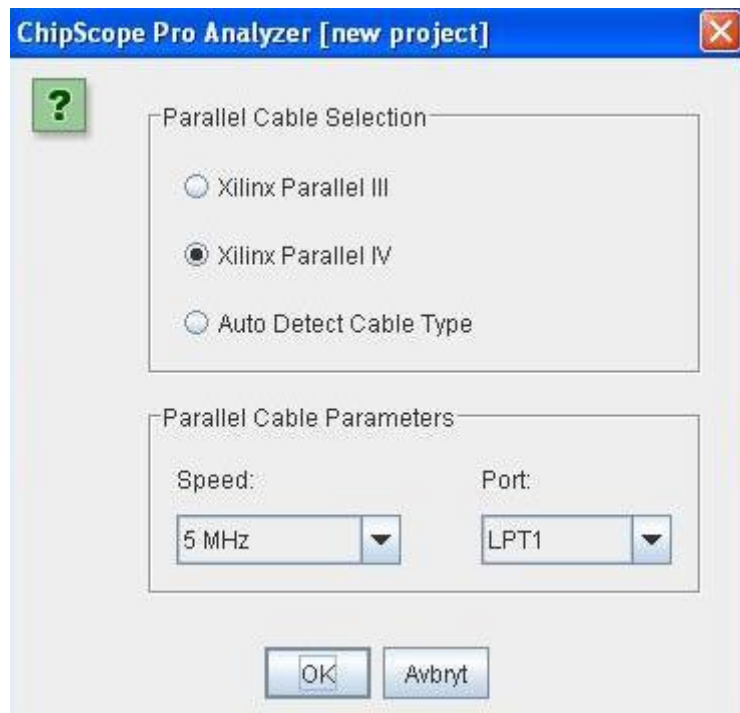

Fig 4.4: Parallel Cable Parameters
3. If the cable used is Parallel Cable IV, then we have a chance of selecting the speed of the cable. Some of the speeds available are 625MHz, 1.25MHz, 2.5MHz, 5MHZ or 10 KHz [3]. Fig 4.4 describes the selection of parallel cable parameters.